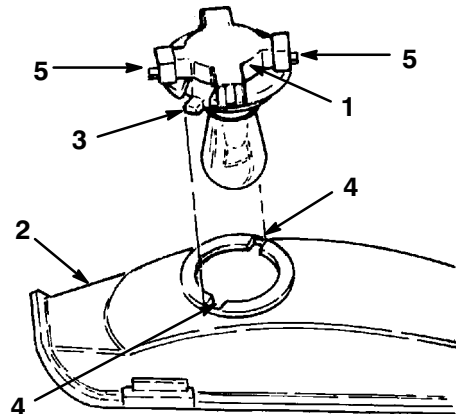

Figure 34
3. Rotate the bulb holder 1/4 turn counterclockwise and remove it from the reflector (Fig. 34).
2. The bulb holder has two tabs (Fig. 34). Align the tabs with the slots in the reflector, insert the bulb holder into the reflector and rotate it 1/4 turn clockwise until it stops.